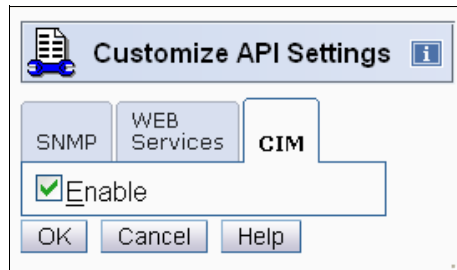

Figure 3-22 Customer API Settings: CIM
3. From the CIM tab, you can enable or disable the CIM interface as shown in Figure 3-22.